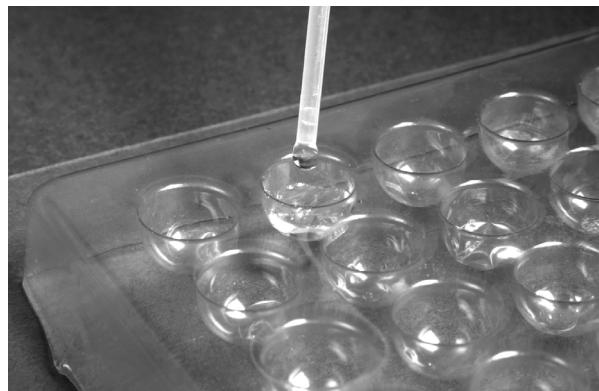

Figure 3
2. Add 5 drops of distilled water to each of 11 consecutive wells in row A of the spotplate (wells A2 to A12), leaving the first well, A1, empty (**Figure 3**).